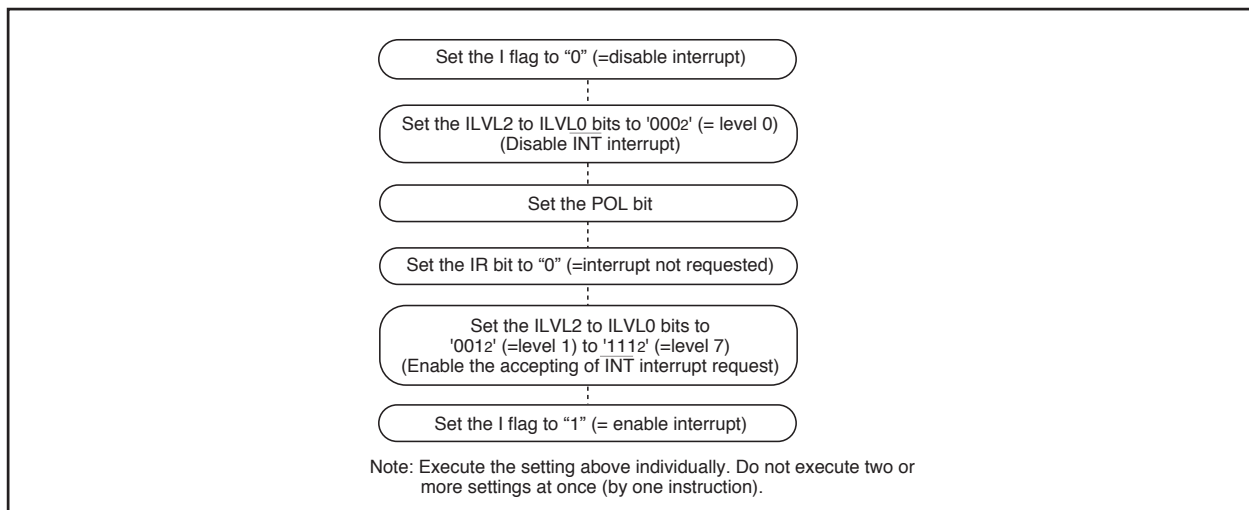

Figure 1.9.12. Switching Procedure for INT Interrupt Request
(1) Reading Address 00000₁₆
(2) SP Setting
- When the polarity of the $\overline{\text{INT}}_0$ to $\overline{\text{INT}}_3$ pins is changed, the IR bit is sometimes set to “1” (=interrupt requested). After changing the polarity, set the IR bit to “0” (=interrupt not requested). Figure 1.9.12 shows the procedure for changing the $\overline{\text{INT}}$ interrupt generate factor.
(4) Watchdog Timer Interrupt